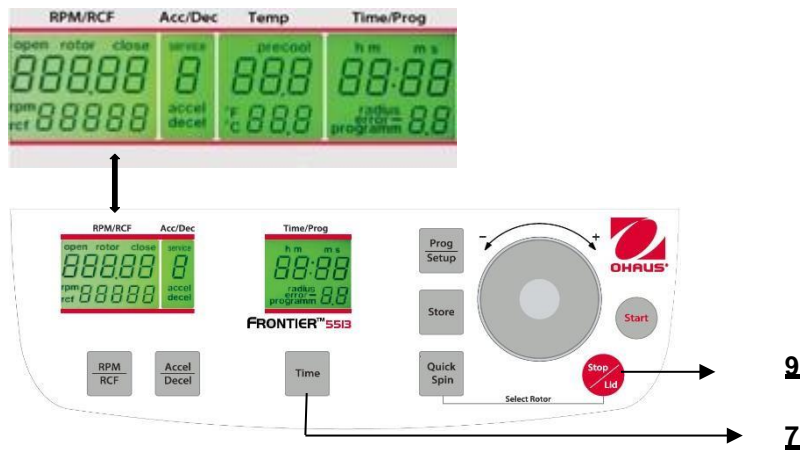

Figure. 27
While the centrifuge is turned off, press simultaneously the keys **"Time"**(7) and **"Stop/Lid"** (9) and turn on the mainswitch of the centrifuge. Now release both keys and as a result a display test is executed for approx. 5 seconds. All indicators will appear at the same time (see figure 27).